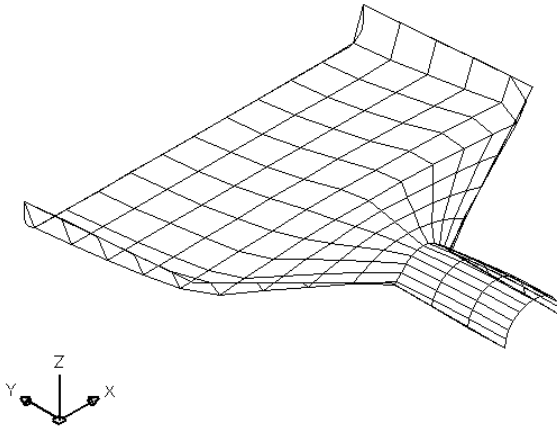

Figure 23-36: The completed dustpan – or starship.
6. Save your drawing. It should look like Figure 23-36. It's either a dustpan or a starship — your choice.